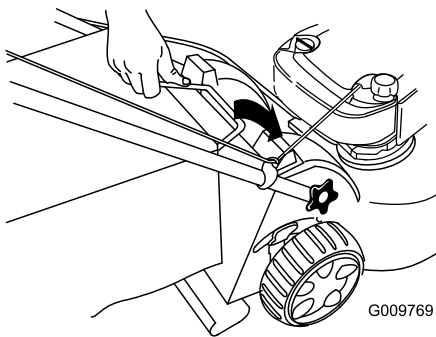

Figure 23
3. Insert the grass bag handle into the grooves at the top of the mower (Figure 23).